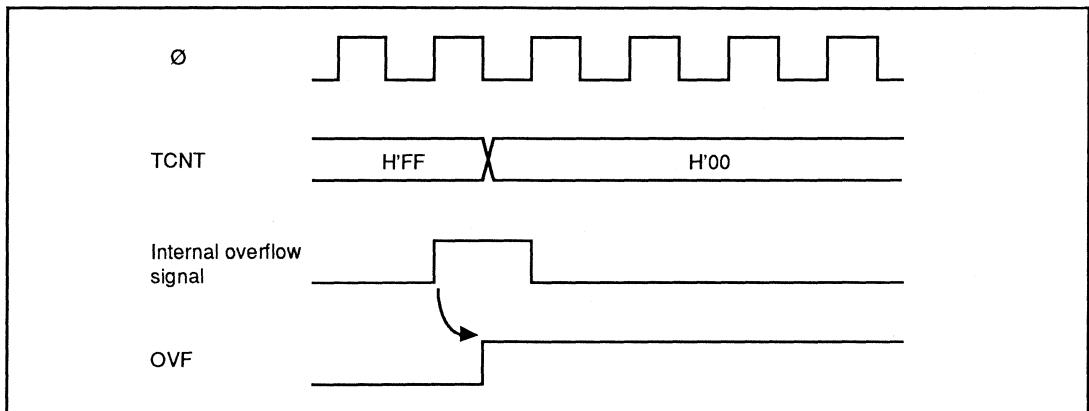

Figure 8-10. Setting of Overflow Flag (OVF)
(1) **Setting of TCSR Overflow Flag (OVF):** The overflow flag (OVF) is set to 1 when the timer count overflows (changes from H'FF to H'00). Figure 8-10 shows the timing of this operation.